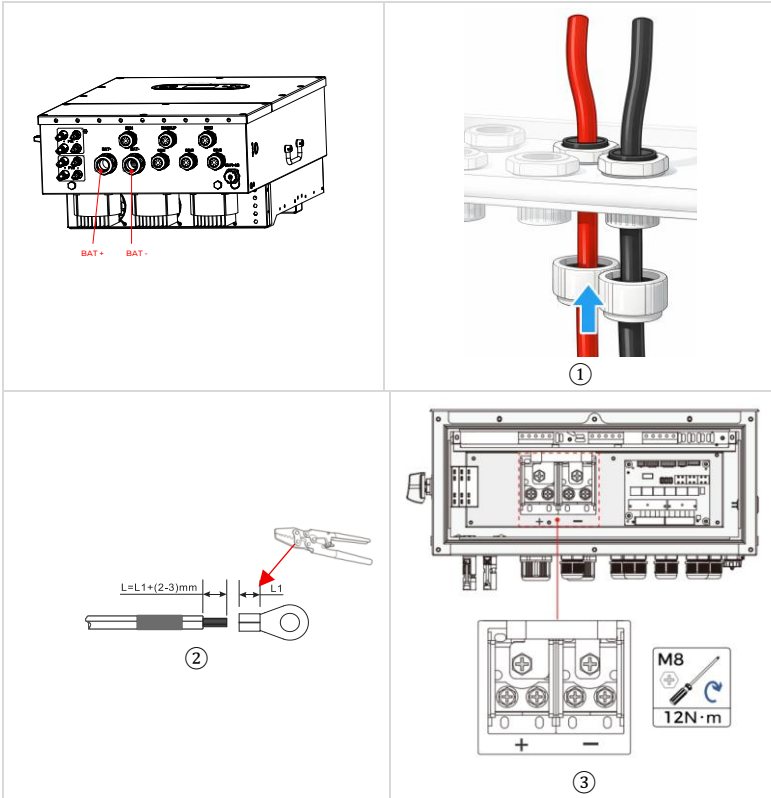

Figure 5-2(a) Install battery connection
Step 2 Remove the insulation layer with an appropriate length from the positive and negative power cables by using a wire stripper, insert the stripped positive and negative power cables into the positive and negative metal terminals respectively and crimp them using a crimping tool, as shown in Figure 5-2(a)②.
Step 3 Fix the battery cables to the BAT+ and BAT- terminals of the inverter with M8 screws, as shown in Figure 5-2(a)③.